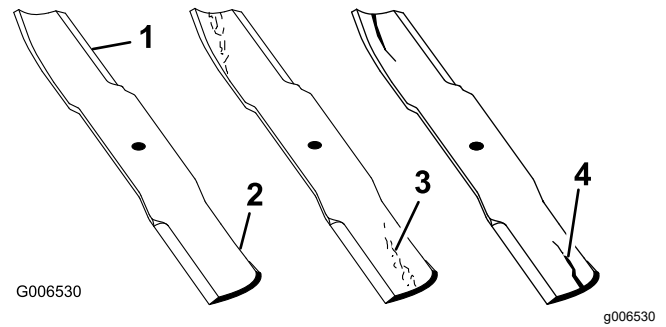

Figure 77
1. Inspect the cutting edges (Figure 77).
4. If you notice any cracks, wear, or a slot forming in this area, immediately install a new blade (Figure 77).